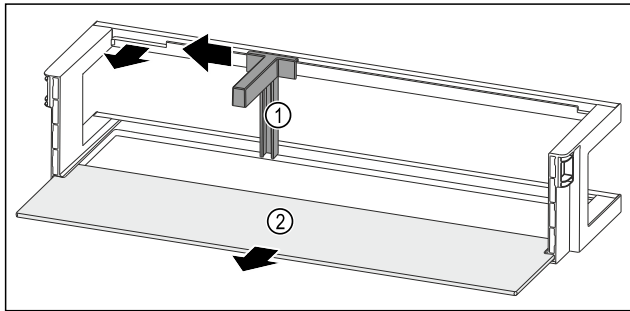

Fig. 187 Door rack with bottle holder and shelf
- ▶ Slide the bottle holder Fig. 187 (1) to the side as far as the recess.
- ▶ Remove the bottle holder Fig. 187 (1).
- ▶ Remove the shelf Fig. 187 (2).